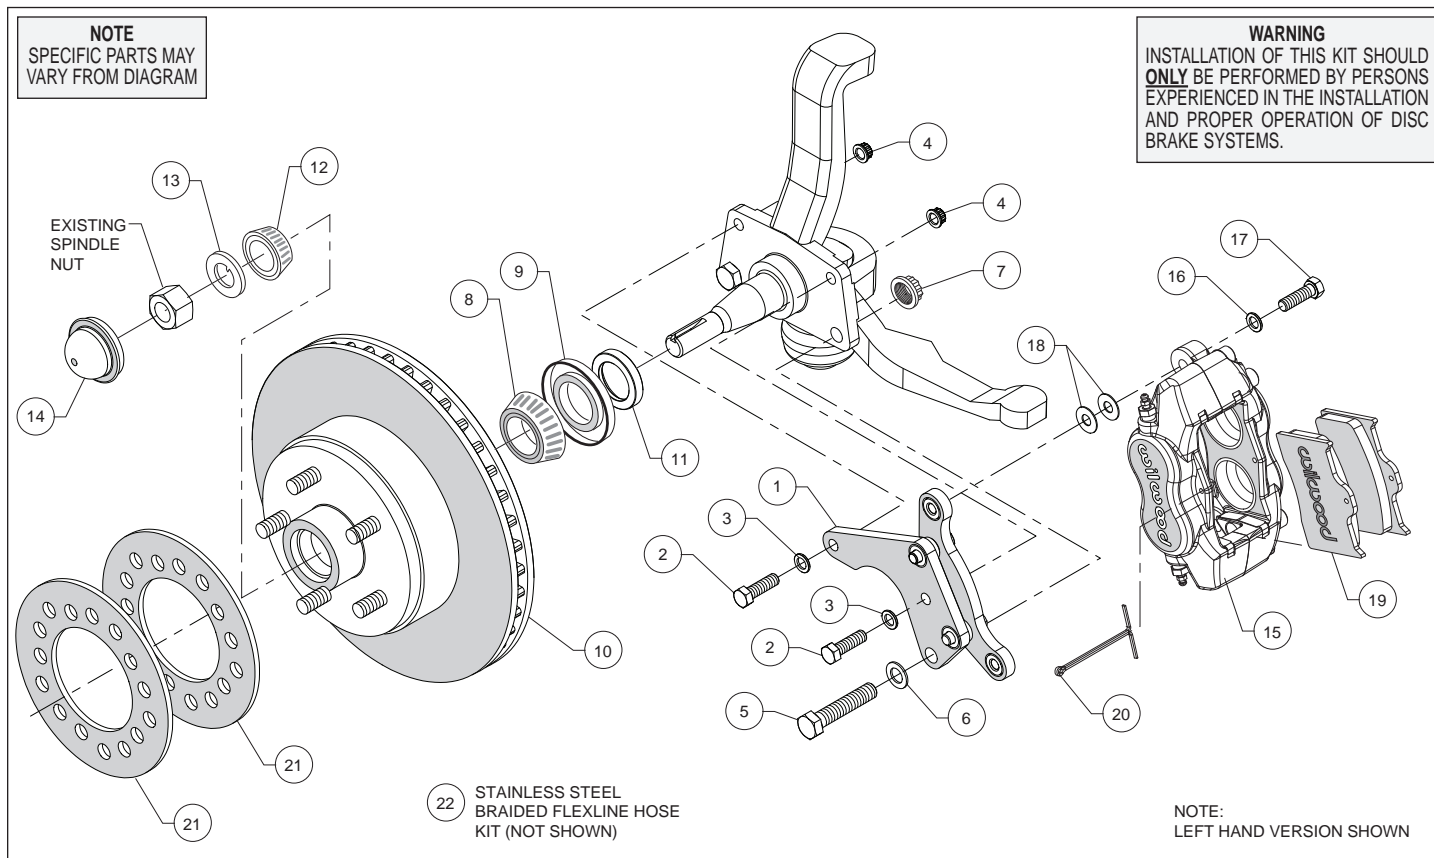
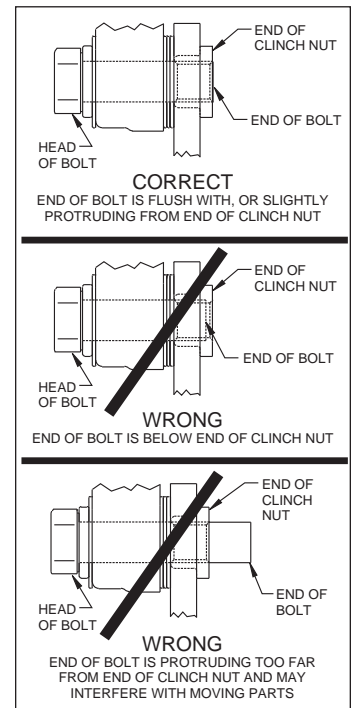

Figure 1. Typical Installation Configuration
Figure 3. Clinch Nut Engagement Diagram
Assembly Instructions (numbers in parenthesis refer to the parts list, on the preceding page and Figure 1): **CAUTION:** All mounting bolts must fully engage clinch nuts. Be sure to check that all bolts are either flush or protruding through flanged side of clinch nut after shimming, Figure 3.
- Orient the caliper mount bracket (1) as shown in Figure 1 and Photo 1, and install using bolts (2 and 5), washers (3 and 6), and secure using nuts (4 and 7) as shown in Figure 1. Ensure that the flanged heads of the clinch nuts in the bracket are facing outboard, Photo 1. Temporarily tighten the mounting bolts. **NOTE:** The bracket must fit squarely against the mount bosses on the upright. Inspect for interference from casting irregularities, machining ridges, burrs, etc. Torque lock nuts (4) to 30 ft-lb. and locknut (7) to 65 ft-lb.
- Press the dust cap (14) into the hub (10).
- NOTE:** Please reference the caution statement at the beginning of the assembly instructions. Mount the caliper (15) onto the caliper mounting bracket (1) using bolts (17) and washers (16), as shown in Figure 1. Initially place two .035" thick shims (18) on each bolt between the caliper and the bracket, Photo 5. Temporarily tighten the mounting bolts and view the rotor (10) through the top opening of the caliper. The rotor should be centered in the caliper, Photo 6. If not, adjust by adding or subtracting shims (18) between the bracket and the caliper. Always use the same amount of shims on each of the two mounting bolts. **NOTE:** The end of each bolt must be flush with or slightly protruding from the head of the clinch nut, as shown in Figure 3. If necessary place spare shims between washer (16) and caliper mounting ear to achieve the proper clinch nut engagement. Once the caliper alignment and clinch nut engagement are correct, remove the bolts one at a time, apply red *Loctite*® 271 to bolt threads, and torque to 40 ft-lb.